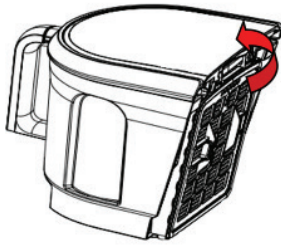

Fig.14
- 3) For the dust tank filter, once the tank is removed, grasp the protrusions of the filter and pull out to remove the cover and the HEPA filter (Fig. 14).